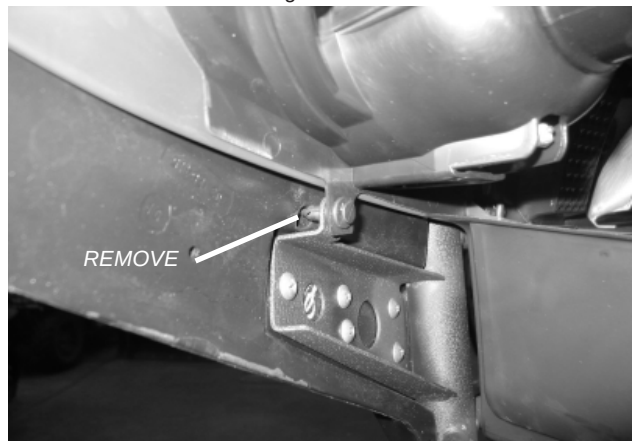

Figure 3
4. Remove the plastic rivets securing headlight bezels to the grab bar. (figure 3)